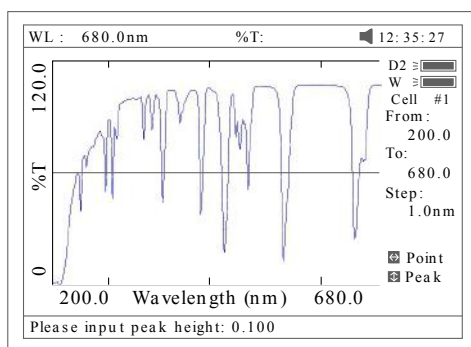

Fig 50
- a) *Peak to peak, press [F1] to set “peak height” and input value by pressing the numeric keypad (Fig 50). Press [v] to search the peak from left to right and press [^] to search from right to left. The value of every peak found will be displayed on the screen*